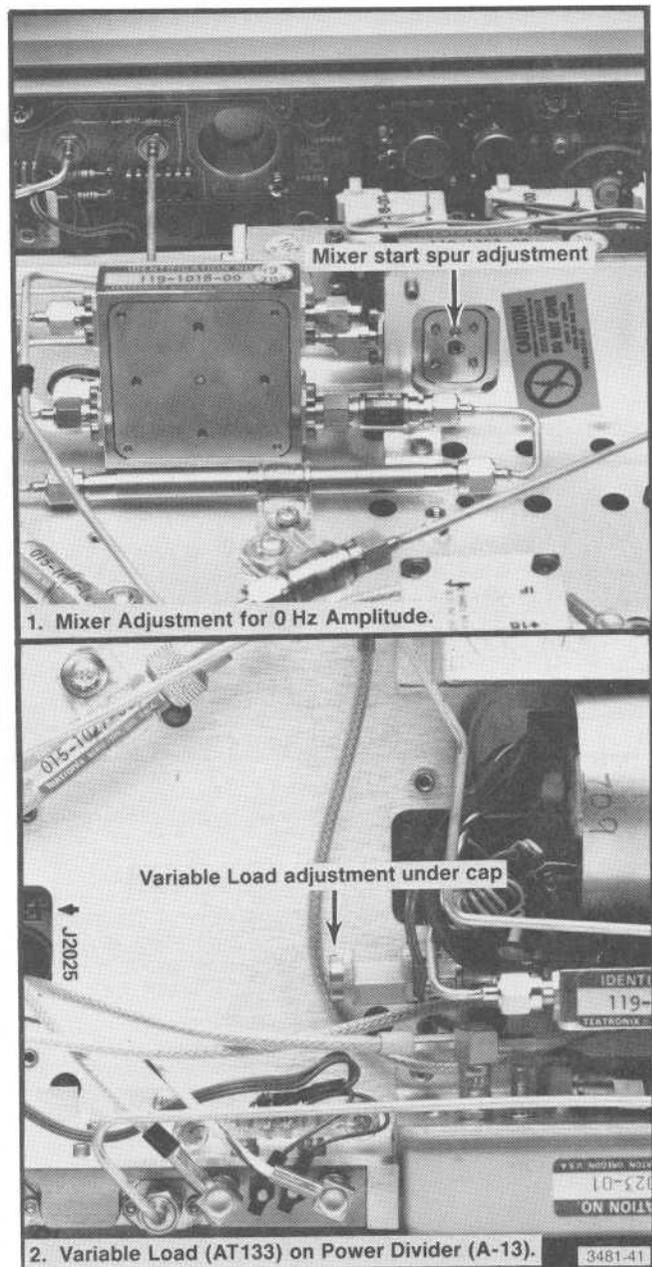

Fig. 10A. Adjustment locations for start spur amplitude.
b. Terminate the RF INPUT with a 50 ohm termination (BNC-to-N adapter and BNC 50 ohm terminator). Turn the 496/496P over to gain access to the RF deck. Remove the protective cover from the end of the Var Load assembly (see Fig. 10A) and center the start spur potentiometer.
e. Re-adjust the Start Spur potentiometer in the Var Load assembly (see Fig. 10A) for a  $-30$  dBm amplitude peak of the zero-hertz response.